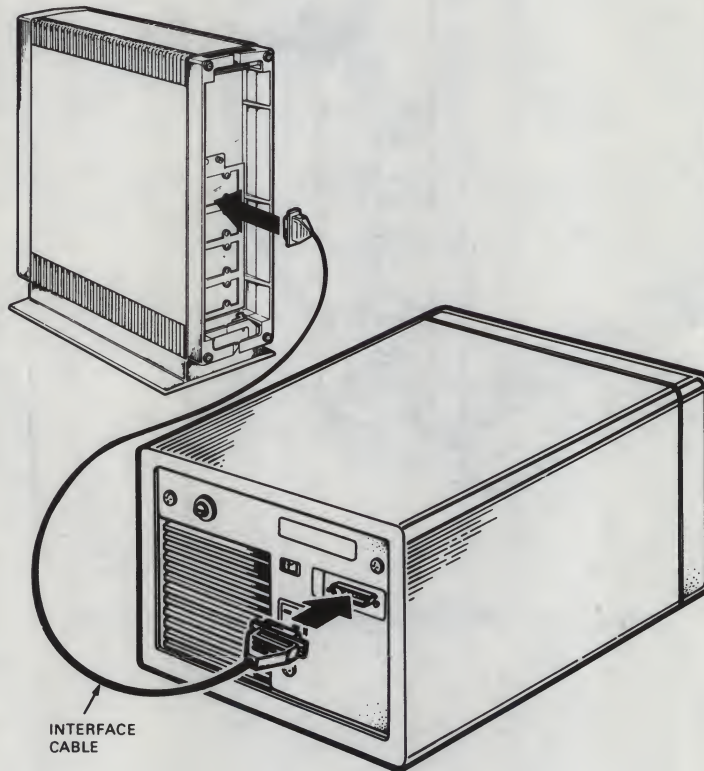

Figure 1-16 Connecting a TK50 Subsystem
- Connect the I/O interface cable to the J1 connector of the TK50 tape drive (Figure 1-16).